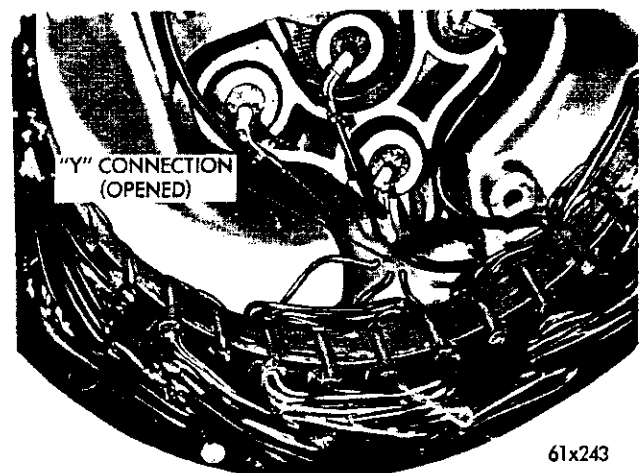

Fig. 62—Separating the Three Stator Leads (Typical)
(a) Separate the three (3) stator leads at the "Y" connection. (See Fig. 62).